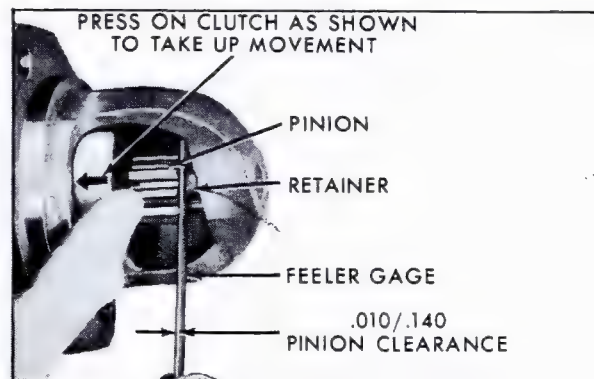

Fig. 6-14 Checking Pinion Clearance
### a. Preferred Method (Fig. 6-14)
3. After energizing solenoid, press on clutch, Fig. 6-14, to take up movement.
#### b. Alternate Method (Fig. 6-14)
5. After energizing solenoid, press on clutch, Fig. 6-14, to take up movement.
6. Push pinion away from stop retainer as far as possible and use feeler gage to check clearance between starter motor pinion and pinion stop retainer, Fig. 6-14. Clearance should be .010 inch to .140 inch when pinion is in cranking position.